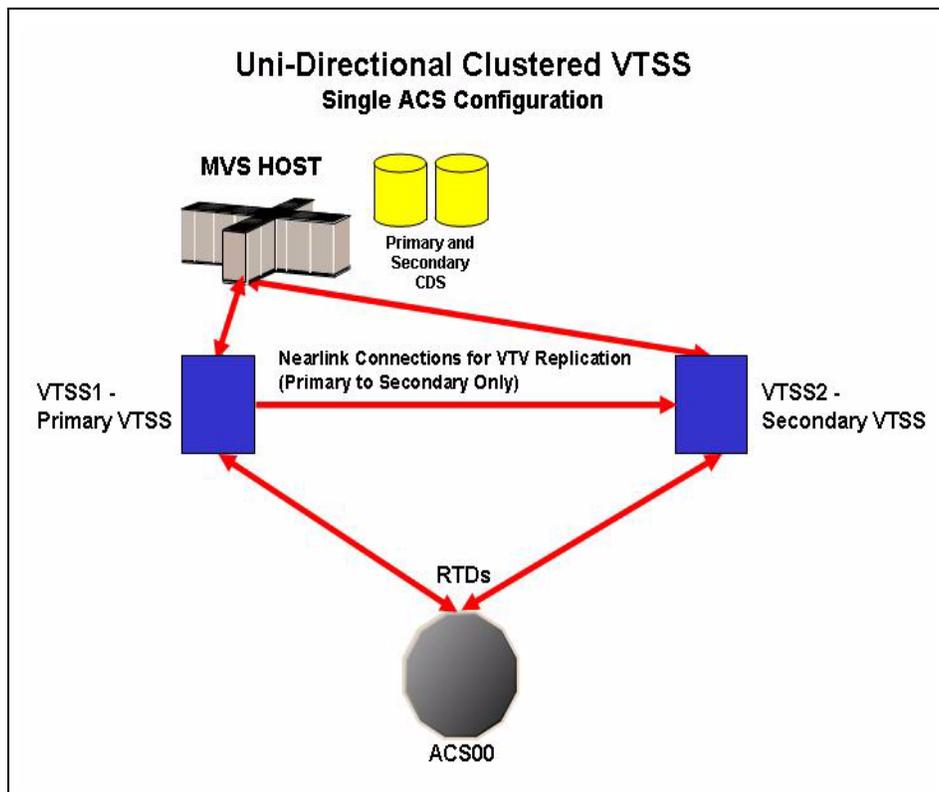

FIGURE 9-2 Uni-Directional Cluster attached to a Single ACS
- 7 *Uni-Directional Clusters*, which consist of a *Primary VTSS* and a *Secondary VTSS* connected by one or more cluster links (CLINKs). FIGURE 9-2 shows a Uni-Directional Cluster attached to a single ACS. The CONFIG CLUSTER statement defines the Cluster, and the CONFIG CLINK statement(s) define this the Cluster as Uni-Directional.